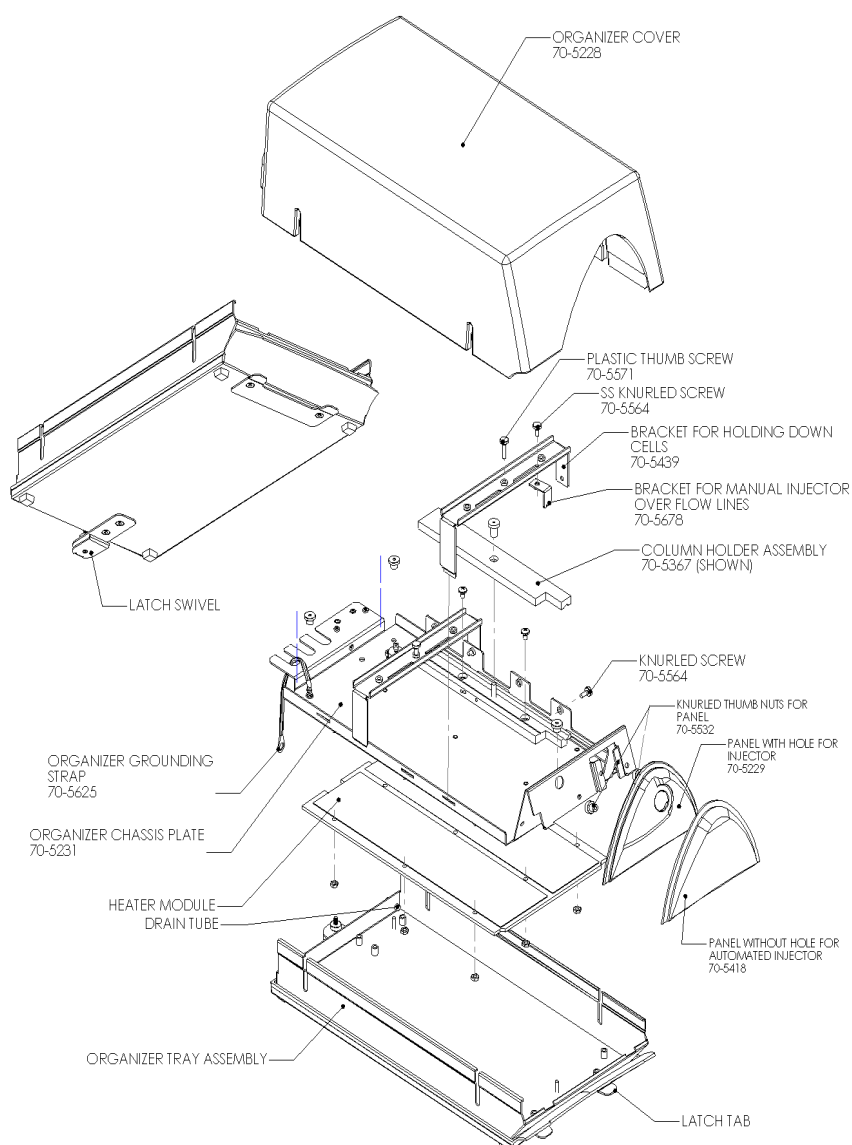

Figure C-8: Exploded View of Corona Thermal Organizer Module
An exploded view of the entire Corona Thermal Organizer Module is shown in Figure C-8. Please refer to this figure as the Organizer Module is assembled.
- b) Connect the Ground Strap Assembly (Part Number 70-5625) to the protruding threaded stud at the left-rear corner of the chassis plate (see Figure C-8). Attach the three knurled thumbnuts which were removed in Section C.4.2, and finger tighten.